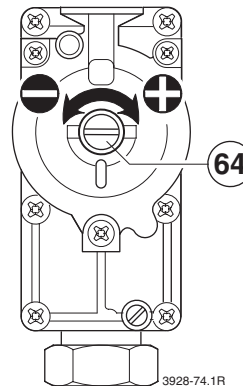

Fig. 42
- Remove the seal from the gas valve adjusting screw (64) and adjust the CO₂ level to the figure given in Table 16 for min. rated heat output. Refer to fig. 42.